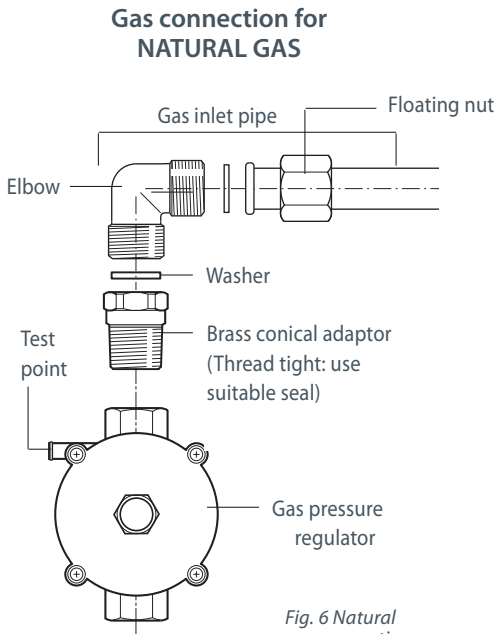

Fig. 6 Natural gas connection
- Before connecting the appliance to the gas supply, mount the brass conical adaptor onto the gas inlet pipe, upon which the washer has been placed (Figs. 6 and 7). Conical adaptor and washer are supplied with the appliance (packed with conversion kit for use with Natural gas or LPG).
- For Natural gas, connect the gas supply to the gas pressure regulator which is supplied with the appliance (Fig. 6). Adjust the regulator to obtain a test point pressure of 1 kPa with the two semi-rapid burners operating at the maximum..